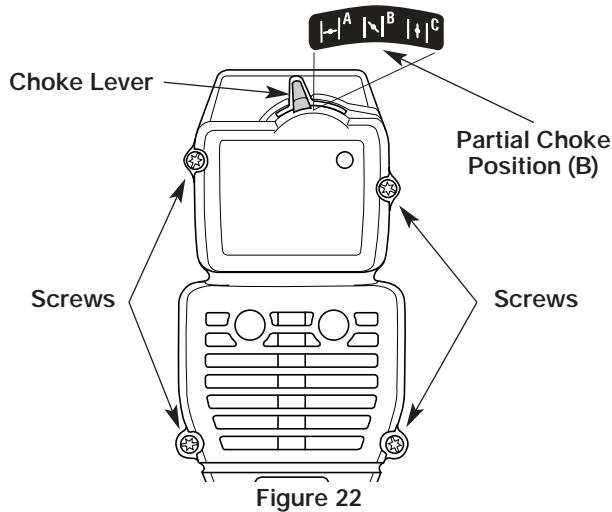

Figure 22
1. Place the choke lever in the **PARTIAL** choke position (B).
**NOTE:** The choke lever must be in the **PARTIAL** choke position (B) to remove the air filter/ muffler cover. See Figure 22.
2. Remove the four (4) screws securing the air filter/ muffler cover. See Figure 22. Use a flat blade or T20 Torx bit screwdriver.
**NOTE:** The choke lever must be in the **PARTIAL** choke position (B) to install the air filter/muffler cover. See Figure 22.
2. Insert the four (4) screws into the holes in the air filter/muffler cover and tighten. See Figure 22. **Do not over tighten.**